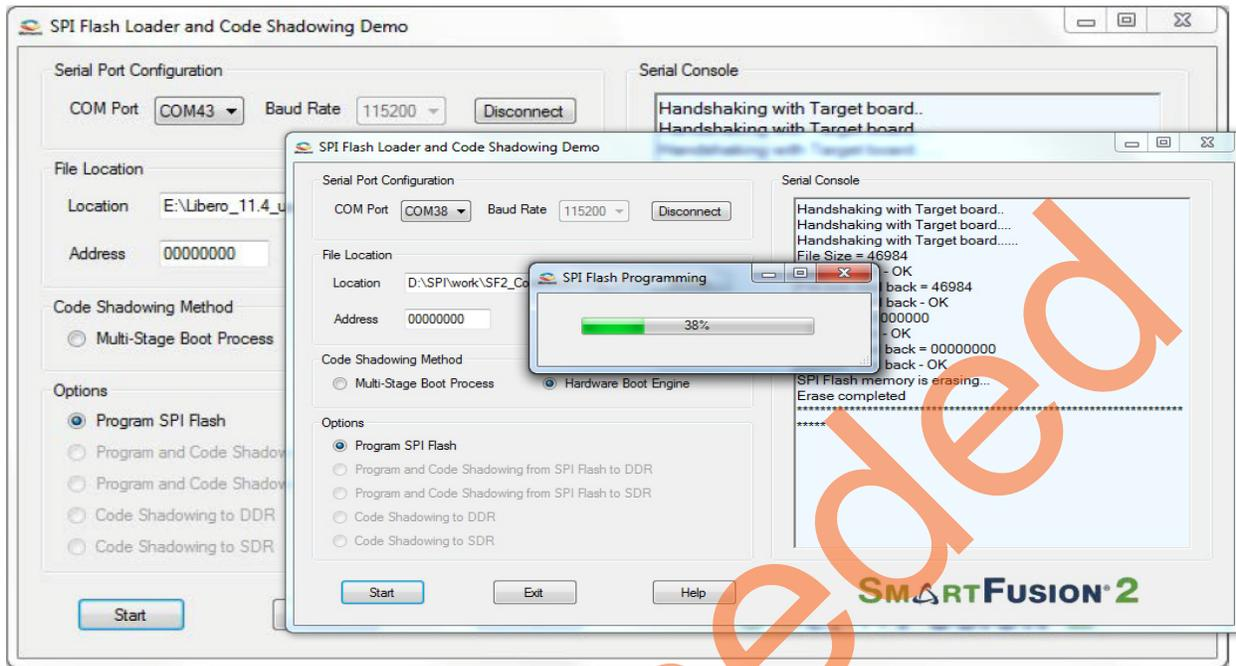

Figure 16 • Flash Loading
11. The serial console section on the GUI shows the debug messages and the status of SPI flash writing, as shown in Figure 16.